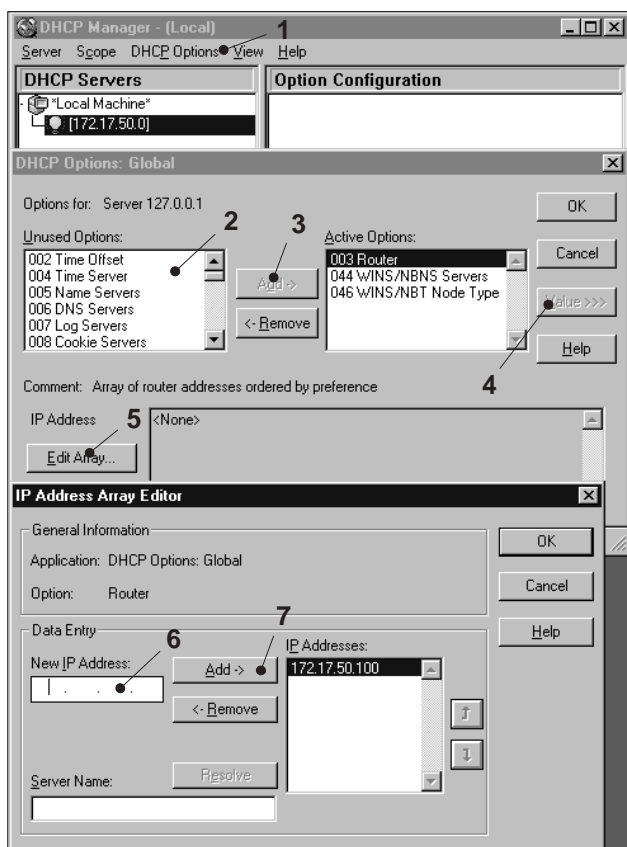

Fig. 13 DHCP Options, Router
- 51 Click **DHCP Options>Global** in the menu bar (Fig. 13/1).
- 52 In the window "DHCP Options: Global" click on the option **003 Router** (Fig. 13/2).
- 53 Click on the **Add** button (Fig.13/3).
- 54 Click on the **Value** button (Fig.13/4).
- 55 Click on the **Edit Array** button (Fig.13/5).
- 56 Enter **172.17.50.100** (IP address of the router) (Fig.13/6) in the New IP Address line.
- 57 Click on the **Add** button (Fig.13/7).